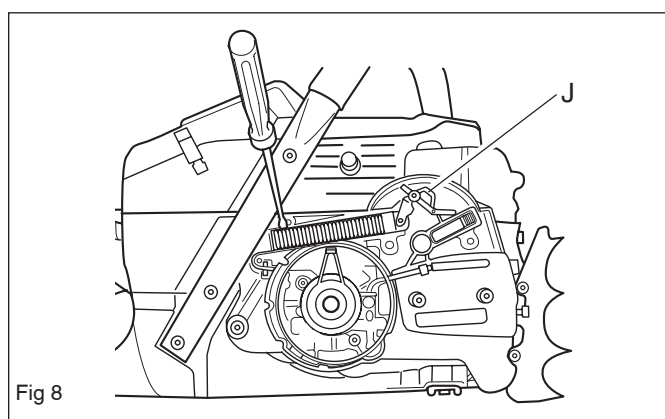

Fig 8
10. Remove the pressure spring by freeing the back end with a screw driver. See fig. 8.
11. Remove the toggle joint (J) with attached brake strap. See fig. 8.